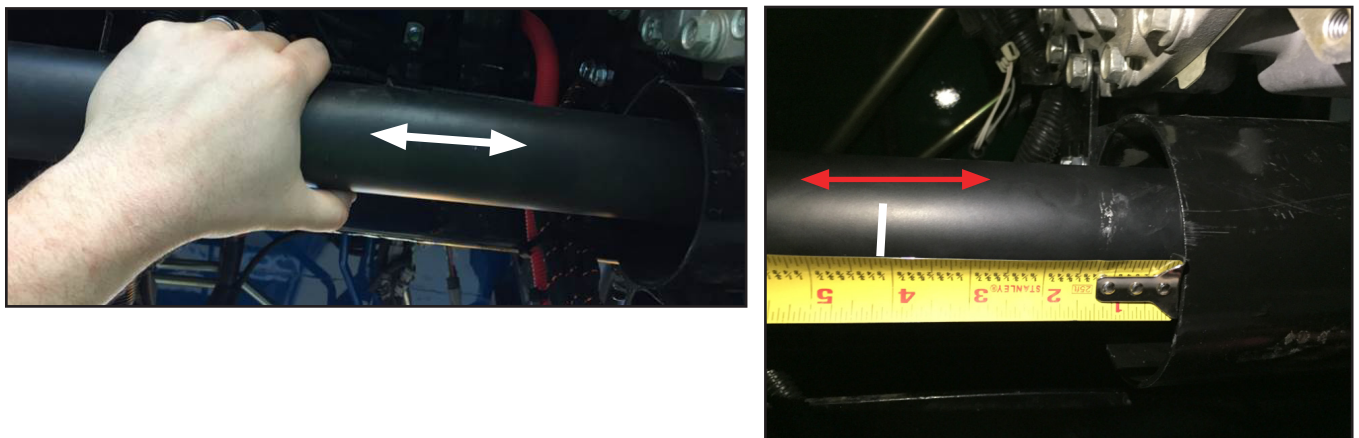

Figure 15
14. Using your hand, move the shaft in one direction and check that it moves  $3/8$ " to  $1/2$ " from the mark (Figure 15). Repeat in the other direction. **NOTE:** Shaft should move back and forth a total of  $3/4$ " to 1".